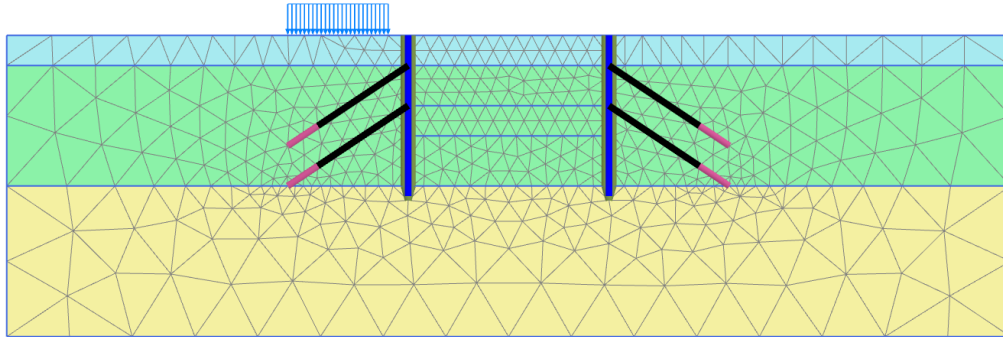

Figure 83: The generated mesh
3. Click the **View mesh** button  to view the mesh as shown in Figure 83 (on page 111).